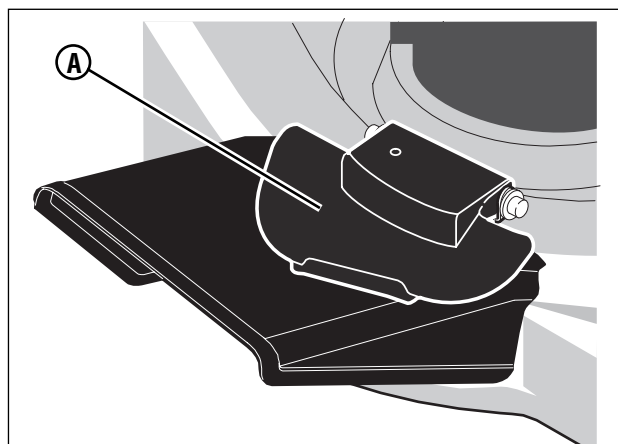

Figure 10: Releasing the mulcher cover
4. Lower the mulcher cover (**A**, **Figure 10**).